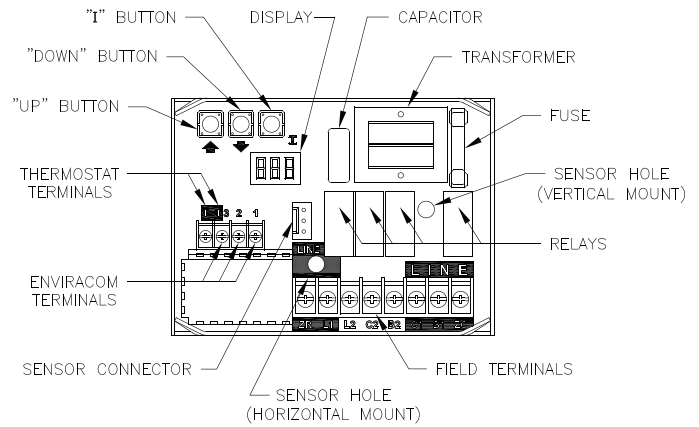

Figure 40: Intelligent Oil Boiler Control
- b. The boiler's sequence of operation is shown as Status Codes on Boiler Control display. See Table 10 and Figure 40.
- d. If the thermostat is not satisfied and the Operating Setpoint (SP) is reached the system circulator will continue to operate and the burner will stop. When the boiler water temperature drops below the setpoint less the differential setting the burner will restart.
- f. When an indirect water heater aquastat call for heat is wired to the "ZR" terminal the Boiler Control starts a domestic hot water circulator connected to the "ZC" terminal and when the boiler temperature is less than Operating Setpoint (SP), the boiler control energizes the oil primary to turn on the burner without circulator pre-purge delay.
- g. On burner start, if the CAD cell does not see flame within approximately 15 seconds, primary control will shut down the burner and enter into a lockout mode. A lockout is reset by pressing the reset button located on the primary control. If the flame is lost while the burner is firing, the primary control shuts down the burner, enters a 60 second recycle delay, and repeats the ignition sequence. If after three (3) trials for ignition, flame is not detected, primary control will enter into restricted mode. Restricted mode is reset by holding down the reset button for 15 seconds.